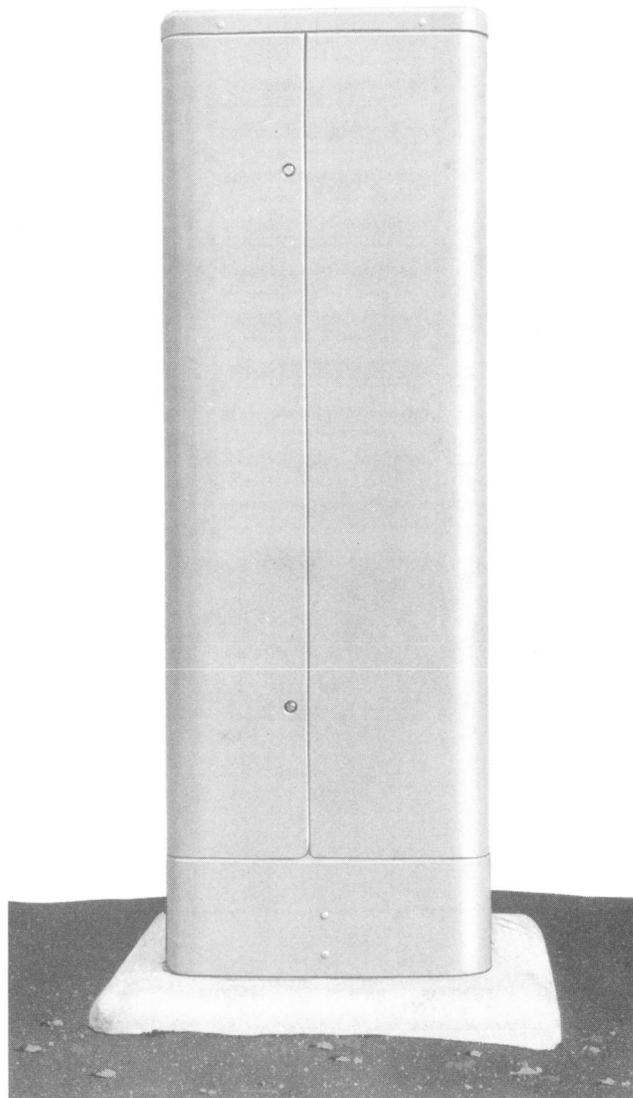

Fig. 28—Completed Installation
14.03 Lock housing in closed position. Figure 28 illustrates a completed installation.